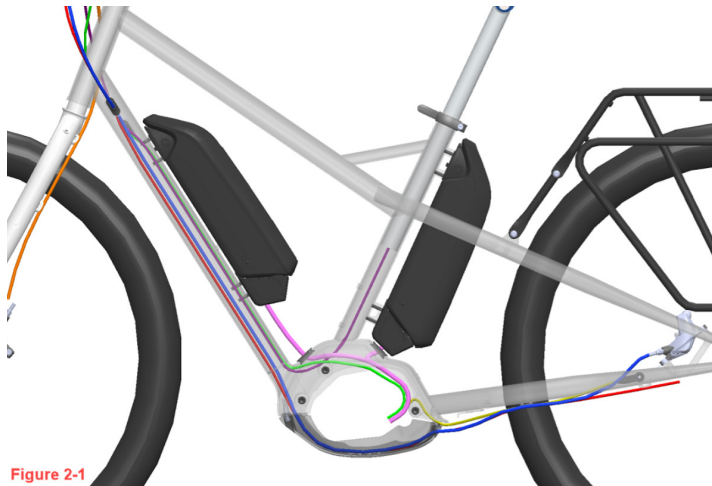

Figure 2-1
6. Connect front and rear battery cables with Bosch Y-connector (Figures 2-1 and 2-2).